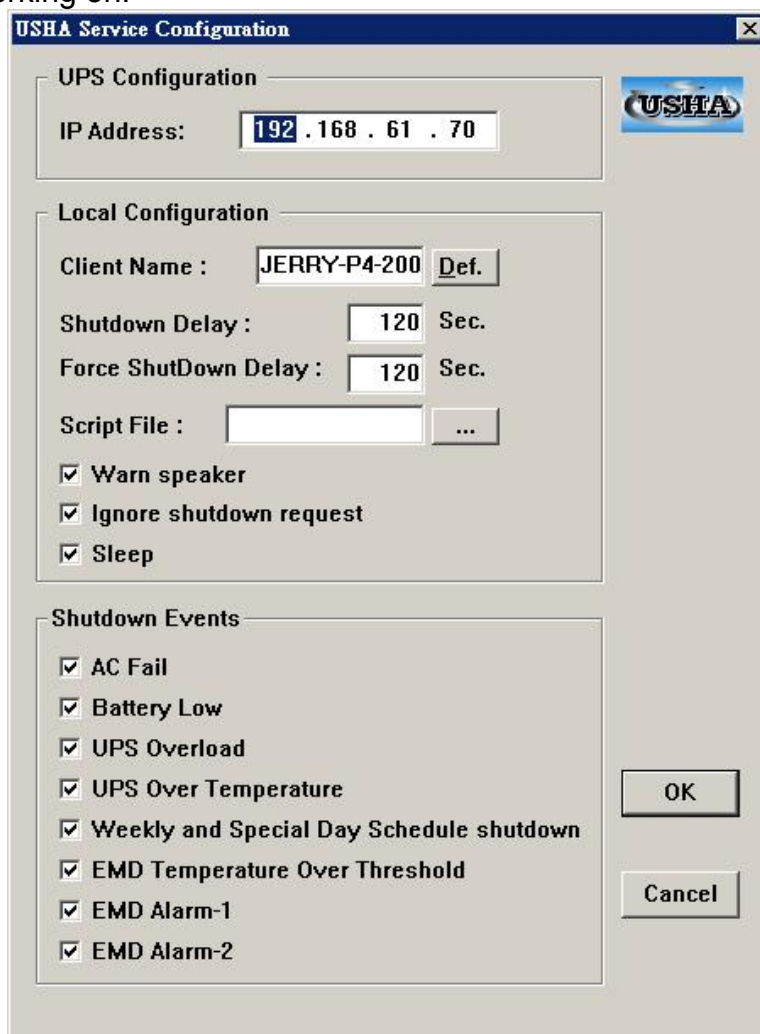

Figure 6-1 Set-up screen
3. A dialog box will be posted on the screen, type in the IP address of designated USHA, its client name and shutdown delay time (Figure 6-1). Click the *Def.* Button if you choose the client name as the workstation you are working on.